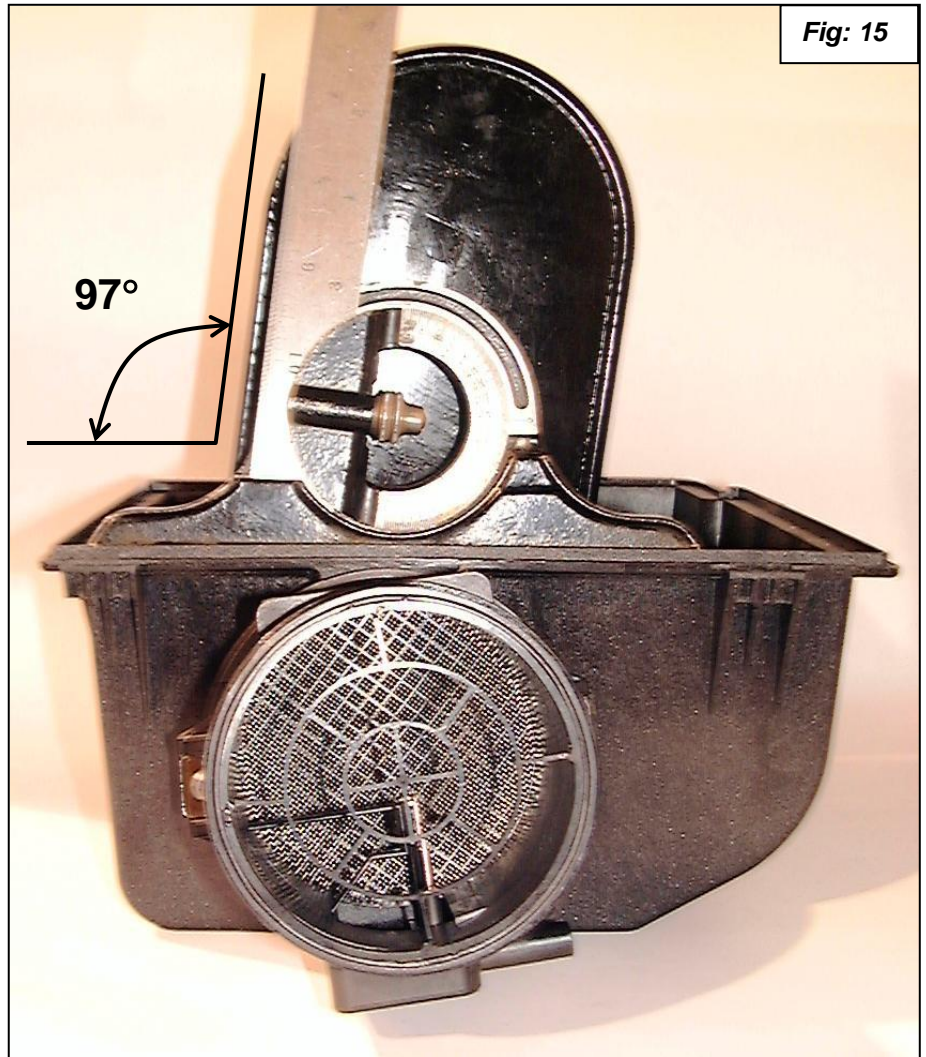

Fig: 15
14. Install the filter onto the Dinan lid at a 97° angle and tighten clamp. See figure 15.